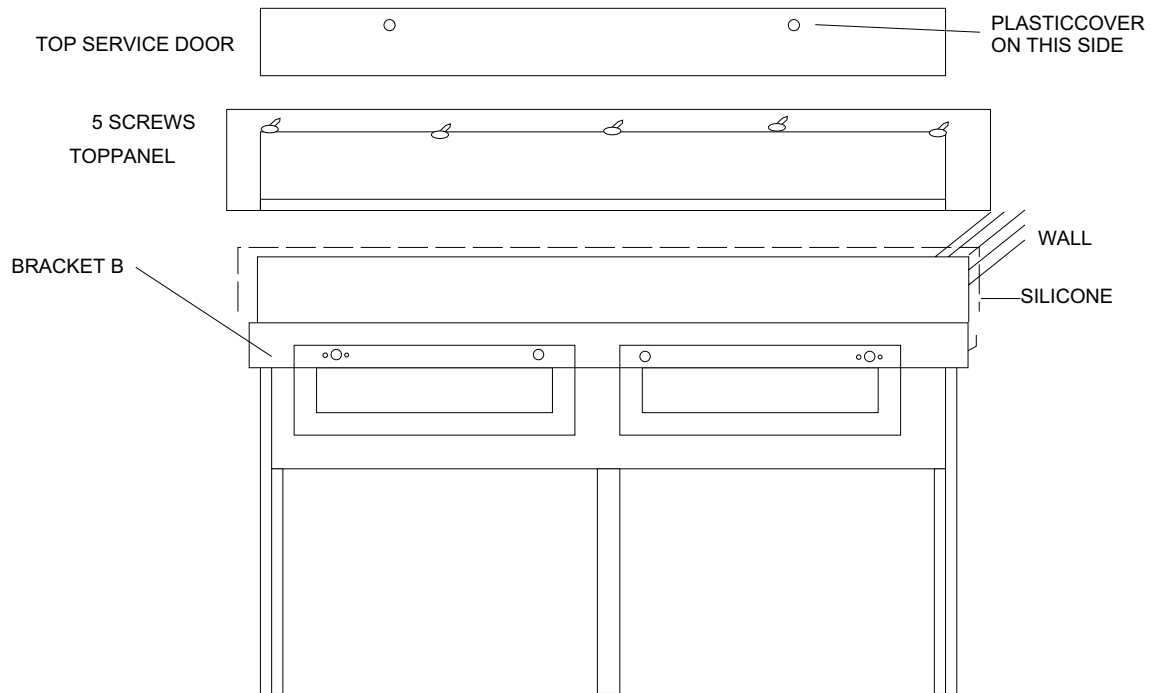

figure 14-8
- 27.** Drill 5 holes into the TOP PANEL for the SCREWS (see FIGURE 14-8). This also marks the position of the ANCHORS.
- 28.** Remove the TOP PANEL (see FIGURE 14-8).